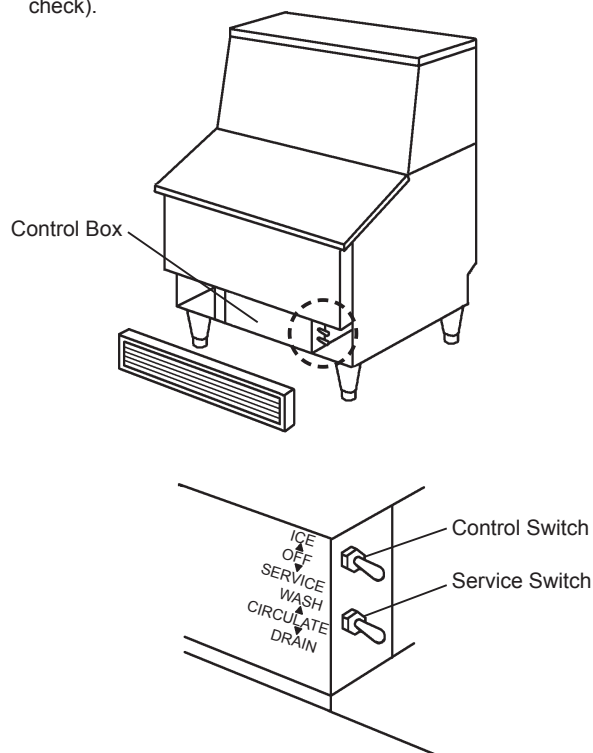

Fig. 5
- 2) Move the Control Switch on the Control Box to the "OFF" position. See Fig. 5.